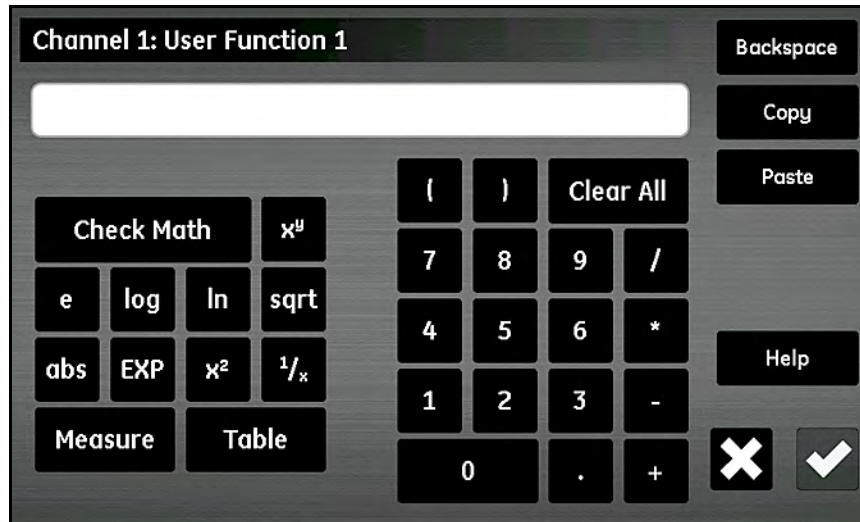

Figure 61: User Function Equation Screen
3. Tap the **User Function** button to select the function name (**Func 1**, **Func 2**, **Func 3** or **Func 4**). Then, tap the large text box just below the **Channel** button to open the *Channel x: User Function y* screen, as shown in *Figure 61* below, to enter the function equation. When the equation is complete, tap the **Check** button to return to the *User Function Setup* screen.
The buttons in *Figure 61* above permit the inclusion of standard mathematical functions, lookup data from predefined user tables (see “*Entering User-Defined Tables*” on page 69). The **Check Math** button is used to find any errors in the equation definition. Also, you may tap the **Clear All** button at any time to start over. The **Copy** and **Paste** buttons at the top right corner of the screen may be used to duplicate information from one user function to another to avoid entering the same information multiple times.